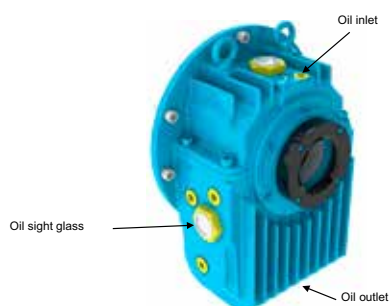

Figure 8.1 - Sleeve bearing
- Drain the oil through the drain hole located at the bottom of the bearing (see Figure 8.1);